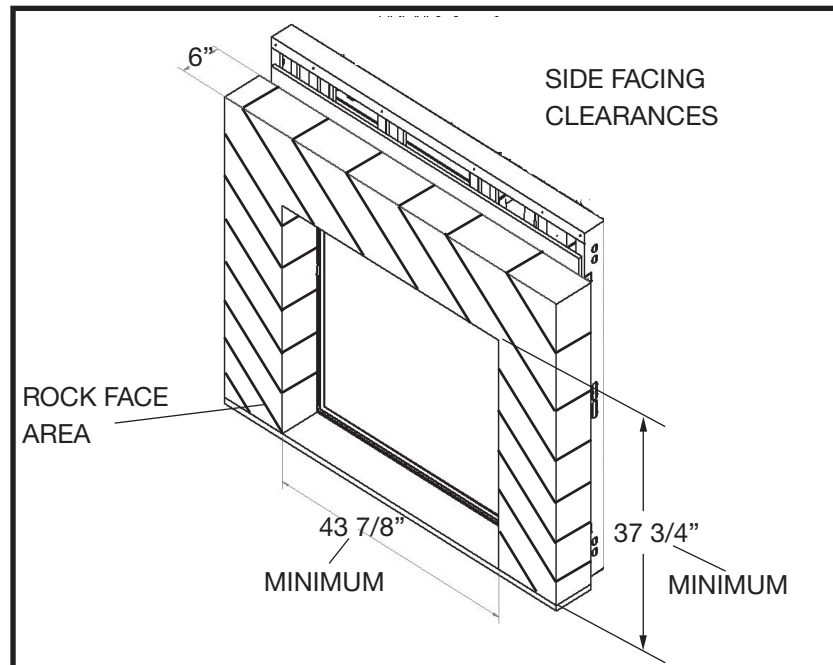

Figure 22: Non-combustible recess allowances.
4. The lintel assembly has a maximum range of adjustability of 1" to accommodate varying facing material thicknesses. The maximum depth is 6" (Figure 22).